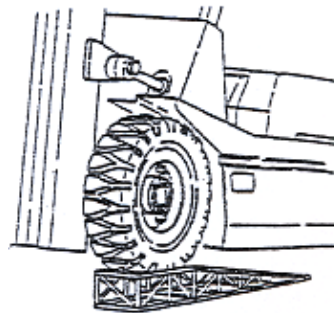

Figure 2-41
7.4.4 Replace Mast Roller, Refers to Figure 2-41